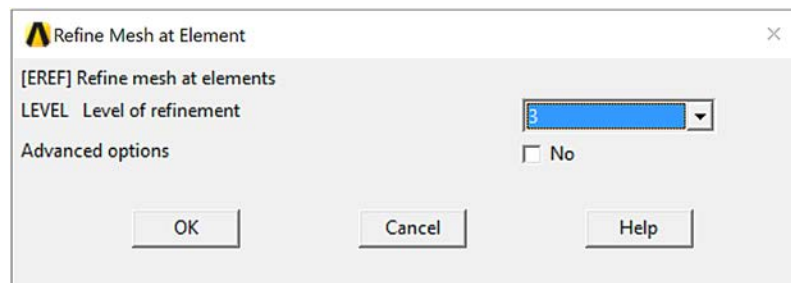

Figure 2-1-11 Refine Mesh Dialog Box.
- Choose a “LEVEL Level of refinement” of 3 (Figure 2-1-11)